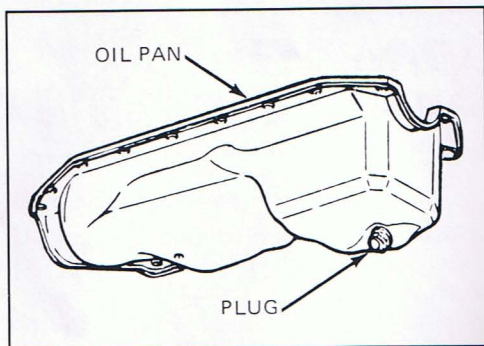

Figure 1 - Oil Pan Plug
1. Locate oil plug on the underside of the car, or pan, beneath the engine. See Figure 1.